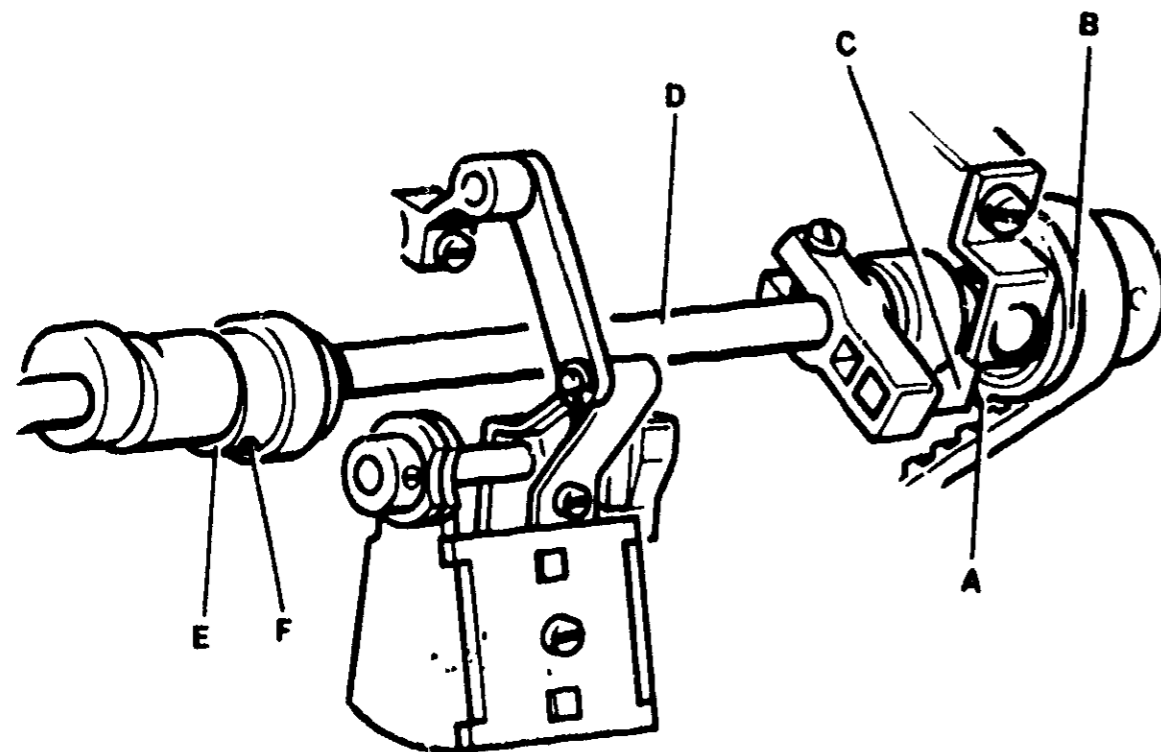

FIGURE 44
- FIRST CONDITION—The tip (A) impressed on toothed wheel (B) (Figure 44) pegged to machine lower shaft (D) must be facing support (C) which protrudes from mainframe.
- SECOND CONDITION—The protruding eccentric portion of feed eccentric (E) must be oriented in the same direction as tip (A). (They must be oriented opposite of operator.) (Figure 44)
- If the second condition cannot be verified, it means that feed eccentric (E) (Figure 44) was removed from lower shaft (D) and later installed with the wrong orientation (that is, turned 180 degrees). To properly reposition feed eccentric, loosen screw (F) slightly, rotate feed eccentric 180 degrees and tighten screw (F) securely.